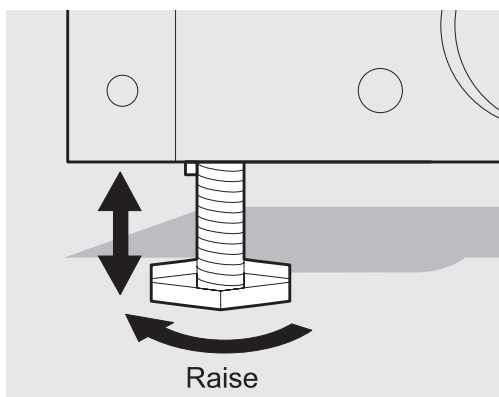

Figure 3
- 3 Use adjustable wrench to adjust leveling screws. Lower the leveling screws on each side clockwise until they contact the floor (Figure 3).